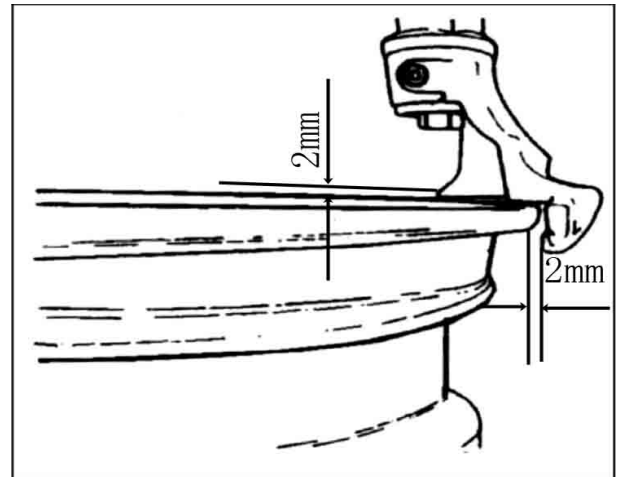

FIG19
4.1.3 Position the hexangular shaft (FIG 2-3) to the working position to make the demount tool close to the rim of the wheel. And use the hand wheel (FIG 7-2) to push against the rocker arm and then use the lock handle (FIG 2-17) TO LOCK. The demount tool will automatically move a little of gap (FIG19).